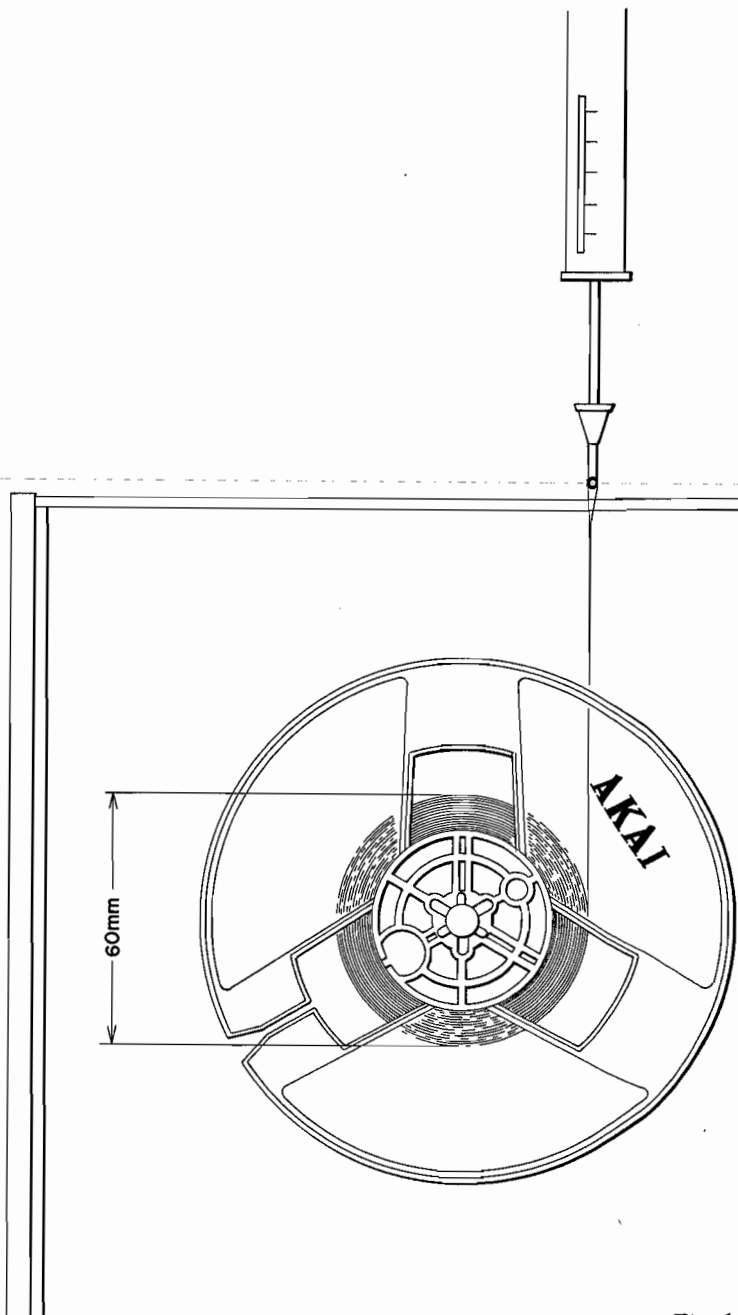

Fig. 13
- 1) As shown in Fig. 13, use a 60 mm diameter tape wound on a 5" reel and measure the brake tension with a tension gauge. Ideal brake tension is from 300 to 370 grams.